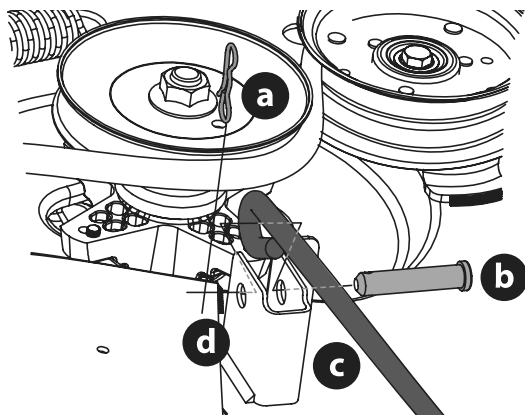

Figure 45
- Remove the third bow-tie pin (a) from the clevis pin (b) that secures the front deck control rod (c) to the front deck lift bracket (d). Remove the clevis pin (b) (Figure 45).